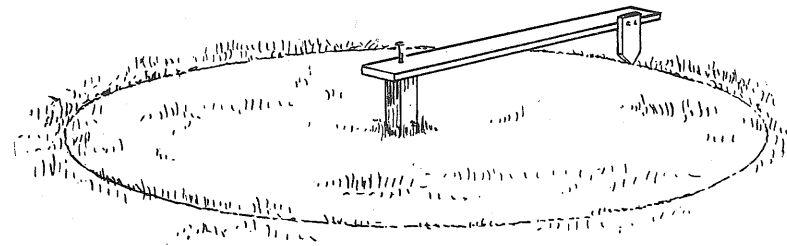
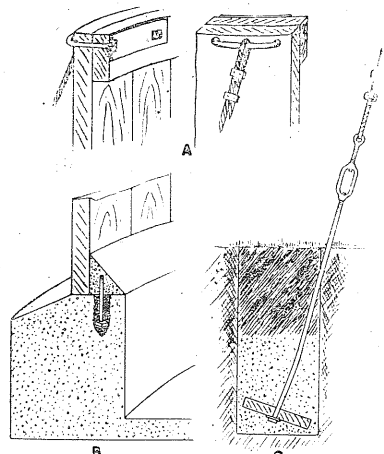

FIG. 1.—METHOD OF LAYING OUT FOUNDATION
FIG. 6.—METHOD OF ANCHORING A STAVE SILO.
15. What is good way to mark out the silo foundation? The best method is first to mark out on the surface of the ground the exact location as shown in Figure 1.
The better constructed silos now are made with a metal or wooden hoop placed on the inside of the silo near the top which prevents buckling during dry weather when the silo is empty. Figure 6 shows how this iron hoop holds the staves in position.
shown in Figure 6 prevent the silo from being blown over when empty. A good method is to cut about 6 inches of thread on a $5/8$ " rod 5 feet long. The rod ought to be at least 3 feet in the ground set in concrete. In order to prevent the rod from turning in the cement when the turn buckle is tightened it should be bent slightly and a block of wood fastened on the end so that the rod cannot pull out. The upper part of the anchor is made from a half inch wire cable of four No. 9 wires twisted together. The turn buckle is fastened to the wire cable by an eye in the bolt threading into the cable.
35. How is a stave silo built? The foundation should first be marked out (see Fig. 1). In order to provide a permanent fastening for anchoring the silo before the concrete has hardened, make holes with a wooden peg at least 6 inches deep and $1\frac{1}{2}$ to 2 inches in diameter and 3 feet apart around the silo, these holes to be about 3 inches inside of the completed silo. When the silo is placed on the foundation and the hoops are drawn as tight as possible, bolts should be placed in the holes of such length that they will extend about 2 inches above the foundation. After the silo is complete and all hoops tightened, a triangle of concrete is placed, as shown at B, Figure 6. This ring of concrete prevents the silo from slipping into the pit or being moved on the foundation, and also makes an airtight joint between the silo staves and the foundation. By making this joint slanting from the stave to the edge of the concrete foundation, it permits the silage to settle evenly without leaving an air space where the staves meet the foundation which is the cause of spoiled silage. There are many instances in which this ring of concrete has failed, so that especial care must be taken in casting it to the foundation.